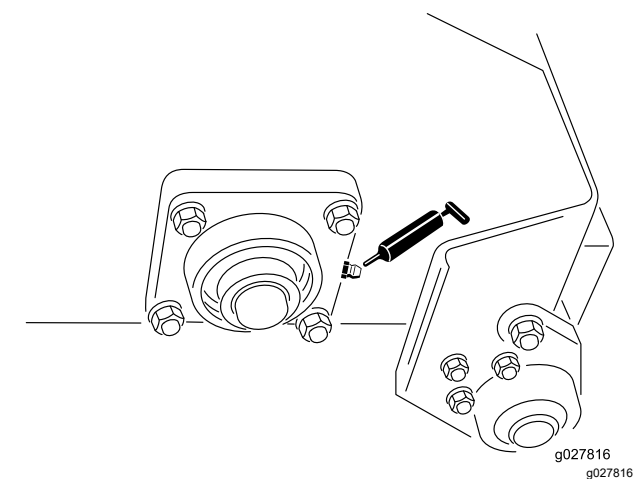

Figure 8
- Finger rotor bearings (2) (Figure 8)